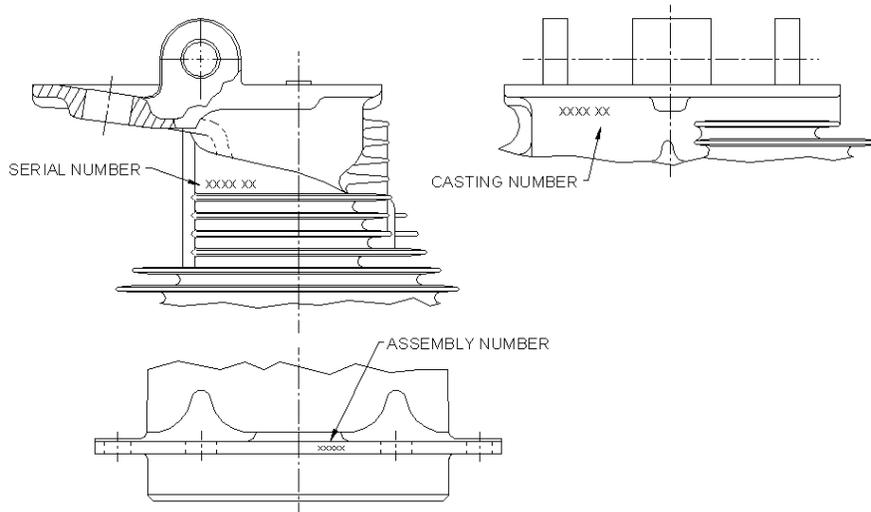

Figure 1: Marking Locations for AEC65314 Cylinder Assembly
**7.0 MARKING:** (See Figure 1)